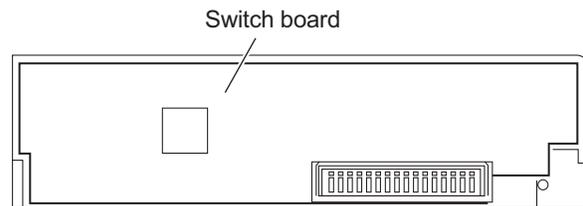

Fig.13
- Lift the switch board from the front panel assembly little by little and take out the switch board. (See Fig.13)